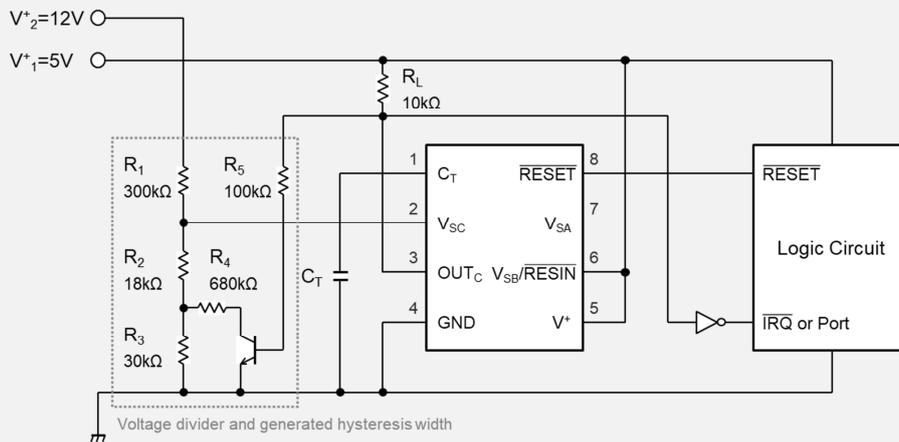

Fig. 6 5V, 12V power supply monitor ($V^+_1 = 5V$, $V^+_2 = 12V$, $\overline{\text{RESET}}$ output is only V^+_1 detection result)
- V^+_2 detection voltage (falling) and hysteresis width at rising are calculated as following formula. In case of resistor value in Fig.6, the detection voltage (falling) is about 9.0 V and the hysteresis width at rising is about 0.2 V